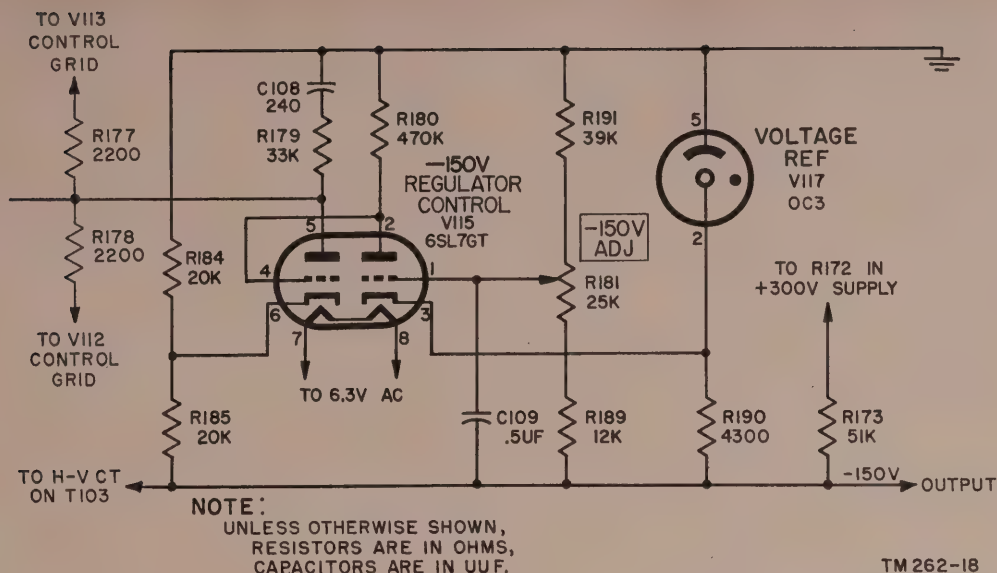

Figure 24. Control Unit C-292B/TRA-7, simplified schematic diagram of change in power supply.
e. In Control Unit C-292B/TRA-7, the varistor bridge circuit has been eliminated and another bridge circuit is substituted. This circuit uses V117, a type OC3 voltage regulator tube, in place of thyrite resistor (figs. 24 and 33). The voltage regulator (voltage reference stage) tube has the same general characteristic as the thyrite; that is, as the applied voltage is increased, the resistance decreases. As the output voltage changes, the current flow through V117 and also R190 changes. This change increases or decreases the cathode voltage of the pins 1, 2, 3 section of —150-volt control tube V115, producing the same regulating action as described above.